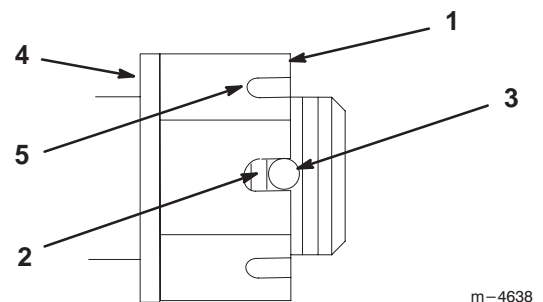

Figure 37
3. Torque slotted nut to 125 ft-lbs (169.5 N•m) (Fig. 37).
4. Check the distance from bottom of slot in nut to inside edge of hole. Two threads or less should be showing (Fig. 37).
5. If more than two threads are showing remove nut and install washer between hub and nut (Fig. 37).
6. Torque the slotted nut to 125 ft-lbs (169.5 N•m) (Fig. 37).
7. Tighten nut until the next set of slots line up with the hole in the shaft (Fig. 37).